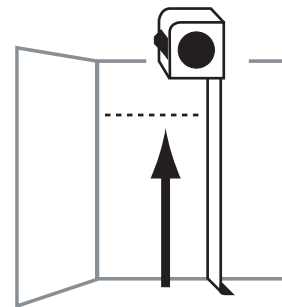

FIG. 1.0
1. Using the height location measurements for the TOP (A) shelf, measure from the floor up and mark the top shelf location on the back closet wall. (Fig. 1.0)